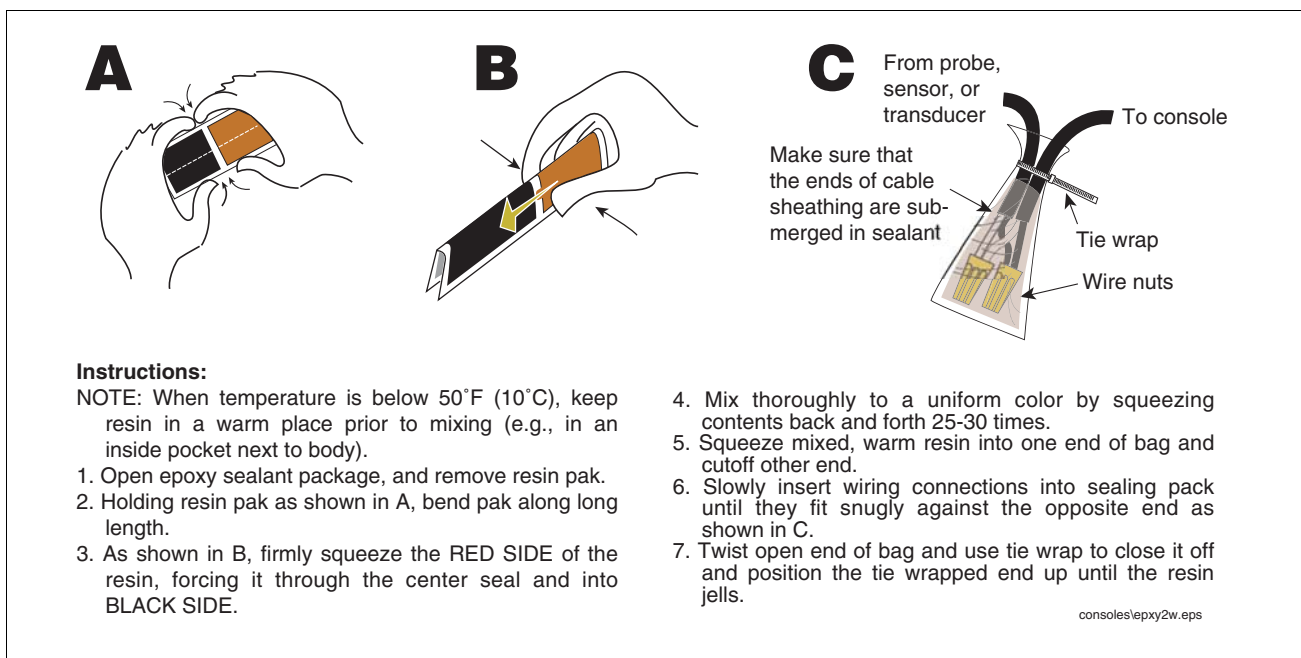

Figure 5. Epoxy sealing field wiring
1. Seal wire nuts with epoxy sealant following the instructions in Figure 5. Note - wire sealing is not required for installations using a wireless interface.
Please refer to FIGURE 5, the processor general arrangement drawing, for the following instructions.